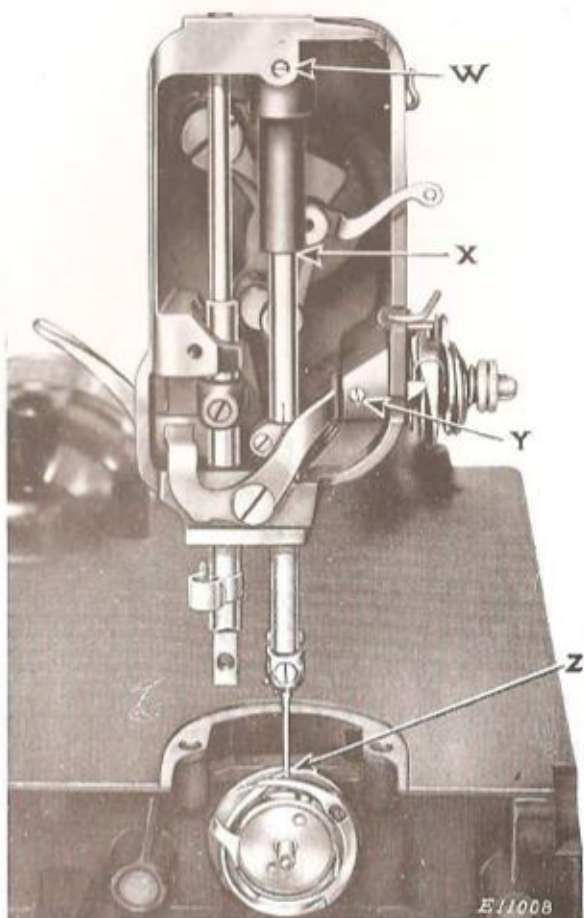
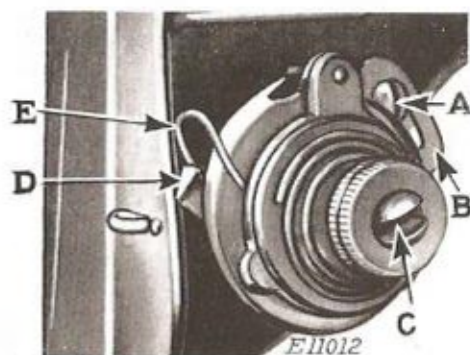

FIG. 20. TIMING ROTARY SEWING HOOK
FIG. 32. THREAD TAKE-UP SPRING
The needle bar has two timing marks near its upper end. Turn the balance wheel toward you until the **lower timing mark** on the needle bar is centred with the lower end of the needle bar bushing when the needle bar is on its upward stroke, as shown at (X, Fig. 20). When the needle bar is in this position, the **point of the sewing hook** should be at the **centre of the needle**, as shown at (Z, Fig. 20), if the hook is correctly timed.
The needle bar bushing is accurately set at the factory, and its position should not be disturbed. If its position has been disturbed, turn the balance wheel toward you until the point of the hook is at the centre of the needle and approximately  $\frac{1}{16}$  inch above the top of the eye of the needle. Loosen set screw (W, Fig. 20) and move the bushing up or down until its lower end centres with the **lower timing mark** at (X, Fig. 20). Then tighten set screw (W, Fig. 20).
The thread take-up spring (E, Fig. 32) should be set so that when the eye of the needle reaches the goods on the downward stroke of the needle bar, the spring will be through acting and will rest against the stop (D, Fig. 32) on the thread take-up spring regulator plate (B, Fig. 32). If the thread take-up spring is not correctly
regulated, as instructed, loosen screw (A, Fig. 32) and turn the spring regulator plate (B) to the right to decrease thread take-up spring movement, or to the left to increase the spring movement. When spring (E) is correctly regulated, securely tighten screw (A).
Remove the face plate and loosen set screw (Y, Fig. 20). Turn the tension stud (C, Fig. 32) clockwise to decrease the tension, or counter-clockwise to increase the tension. The tension should be just enough to take up the slack of the needle thread until the eye of the needle reaches the goods in its descent. When the correct tension is obtained, tighten set screw (Y, Fig. 20).